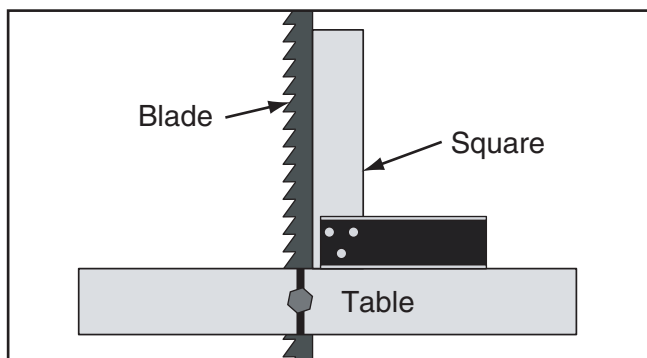

Figure 63. Squaring back of blade and table.
2. Place a square on table and against back of blade, as illustrated in **Figure 63**. Table should be perpendicular to back of blade.